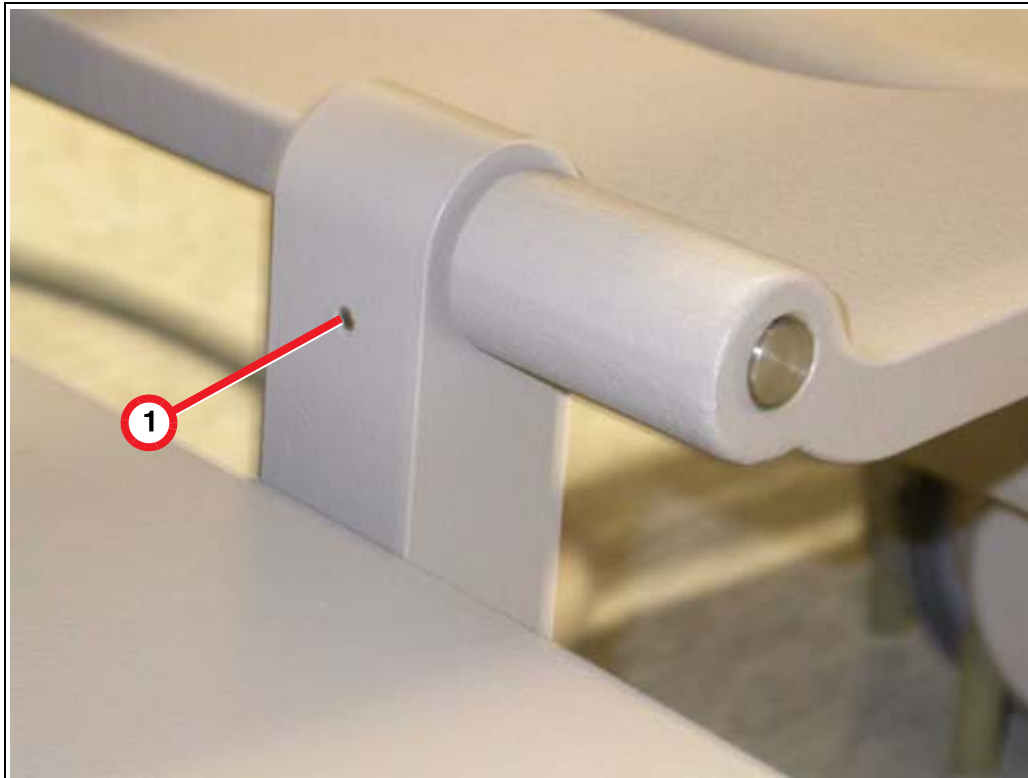

Fig. 25: Securing screw
- The rubber stoppers must be secured by the screw ((1/Fig. 25 / p. 24)).